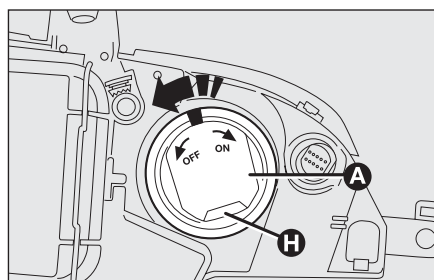
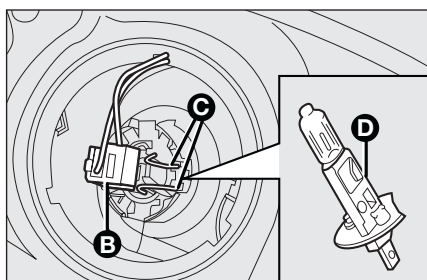

fig. 20
fig. 21
- ☐ turn the bulb holder anticlockwise **A**-fig. 20 and pull it out;
- ☐ disconnect the electric connector **B**-fig. 21;
- ☐ release the bulb holder clip **C**-fig. 21;
- ☐ remove the bulb **D**-fig. 21 and replace it;
- ☐ refit the clip **C**-fig. 21, connect the electric connector **B** and insert the cap **A**-fig. 20 turning it anticlockwise. Arrange the opening vent **H**-fig. 20 of the cap from the top downwards.